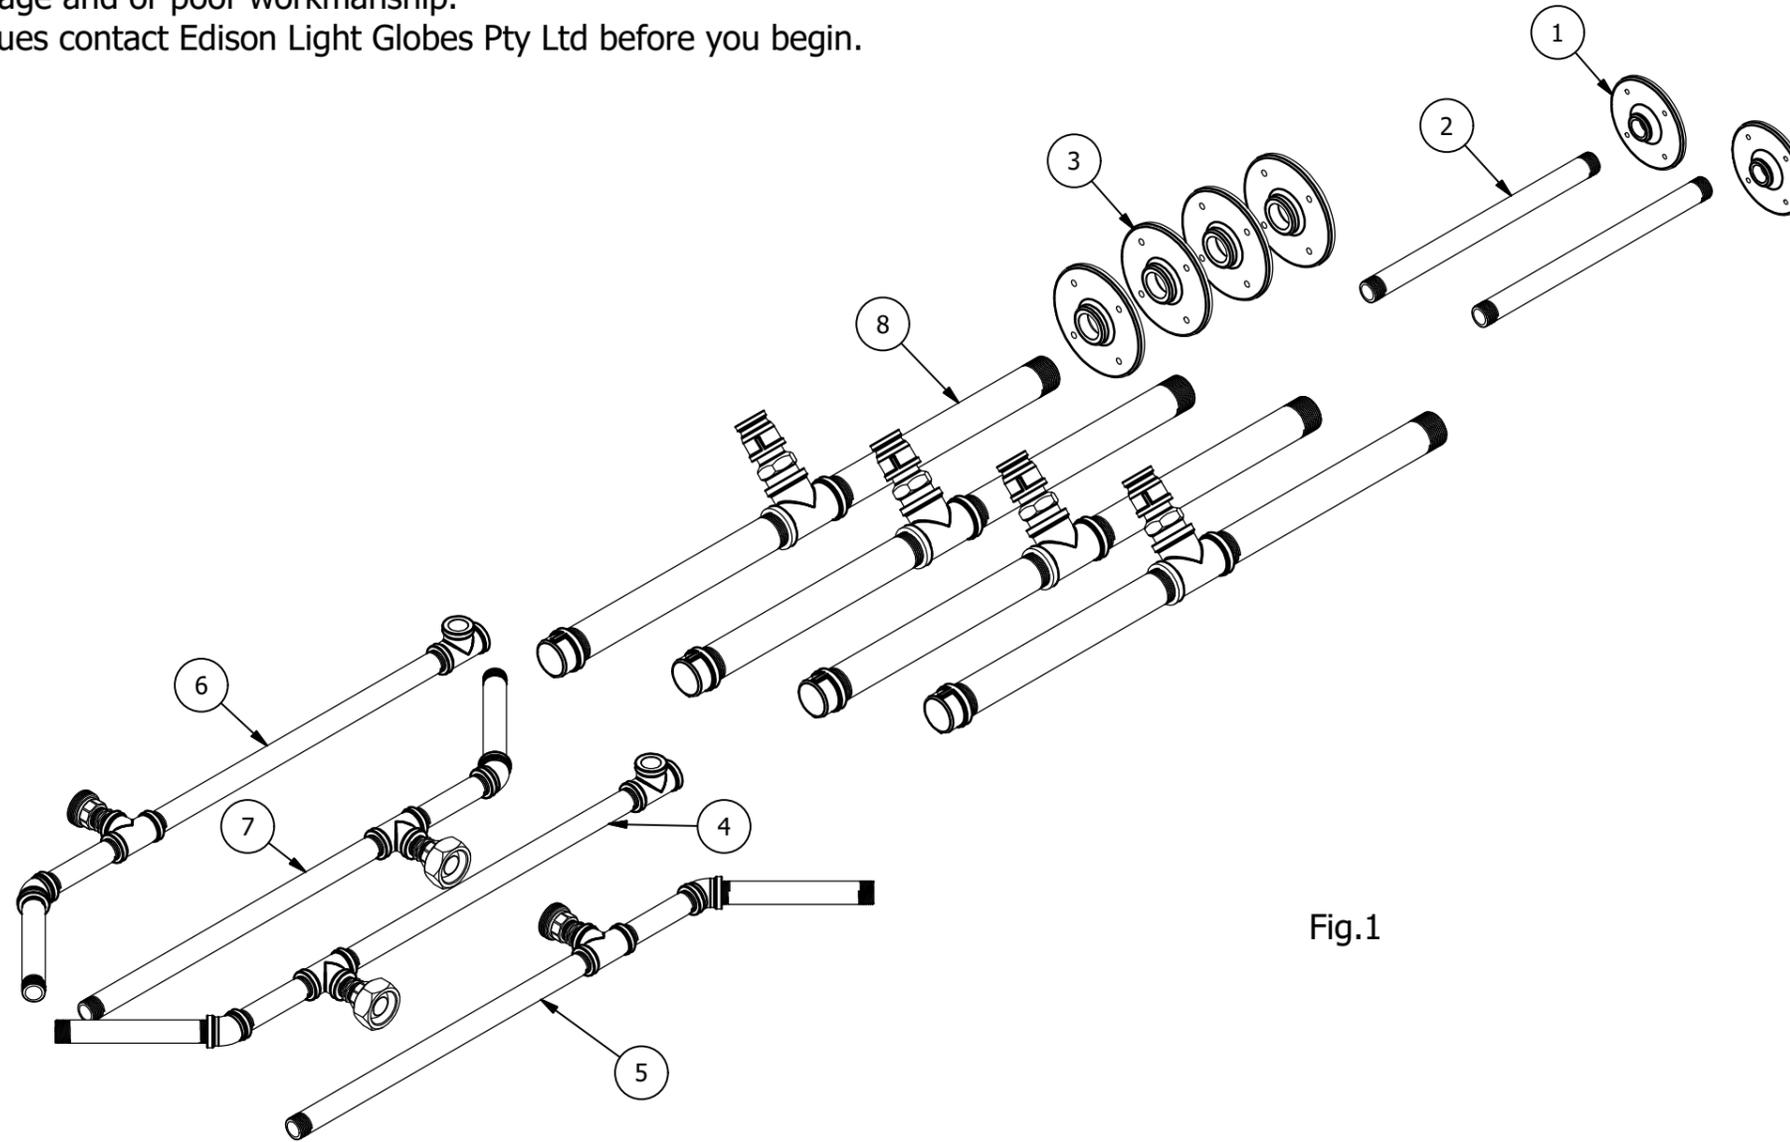

Fig.1
- 1) Ensure all components are present against the parts list and Fig.1